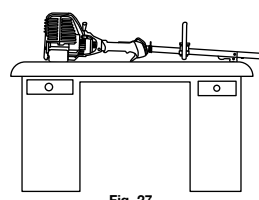

Fig. 27
2. Place the engine on an elevated, level surface with the cutting head shield hanging off the surface to get a proper oil level reading (Fig. 27).